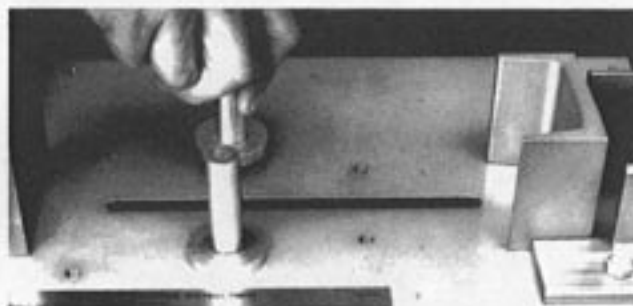

Figure 8 — Inserting Stop-Posts
6.03 Insert stop-posts in tapped holes in base of cutter corresponding to End Plate diameter and hand tighten firmly. Figure 8.